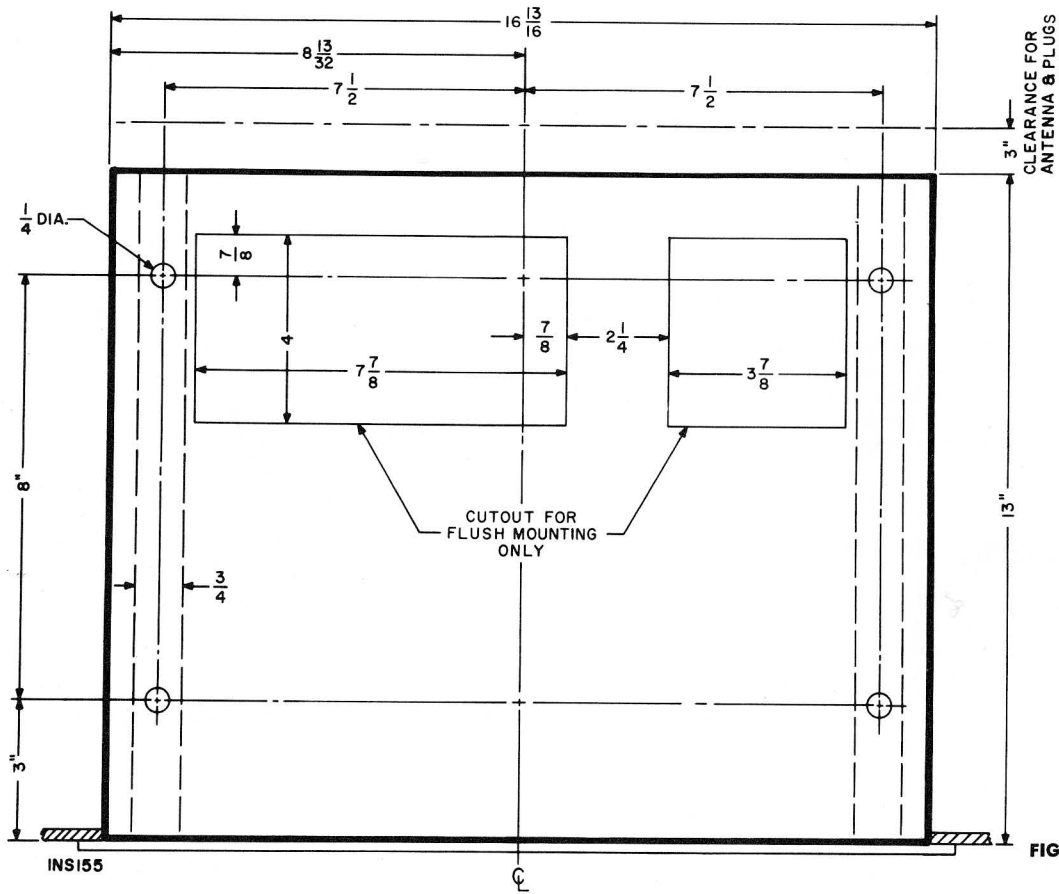

FIGURE 3. Top view of custom installation.
- 2—Fasten the two cleats to the top of the mounting board with wood screws in the position shown in Figure 3. Screw heads should be flush with the top of the cleats. Then locate and drill four  $\frac{1}{4}$ -inch holes through the mounting board and cleats as indicated.
If the height of the custom cabinet will not permit you to mount the *500-B* by means of cleats, as described in the preceding section, the chassis may be mounted directly on the cabinet shelf. If the chassis is mounted in this way, however, it is essential that cutouts be made in the shelf as shown in Figure 3, and that the back of the cabinet remain completely open, in order to provide proper ventilation. For a flush-mounted installation, proceed as follows:
- 1—Locate and drill the four  $\frac{1}{4}$ -inch holes in the bottom shelf of the custom cabinet as indicated in Figure 3.
2—Saw cutouts in the bottom shelf following the outlines shown in Figure 3. It is absolutely essential that these cutouts be made as indicated so that the necessary ventilation will be supplied to the 500-B chassis.